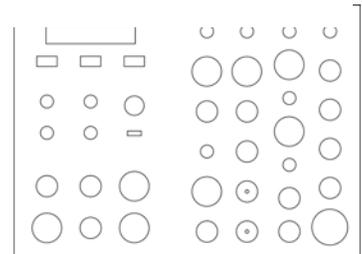

Figure 4. Diagram of your water testing kit.
2. Diagrams like Figure 4 will help you locate chemicals in your kit, but **be sure to read the labels carefully** – many bottles look alike! Some bottles may have been moved by previous users.